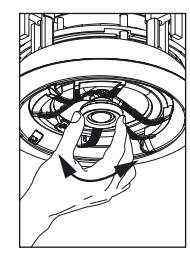

Figure 4. Tweeter adjustment.
9. Direct the tweeter. The tweeter is directed by gently pressing on the outer edge of the tweeter housing. It will move up to 20 degrees in any direction and can be positioned independent of the woofer assembly. For critical listening, direct the tweeter towards the user's favorite listening position. For surround sound or low volume background listening, create more reflections and thus more ambiance by directing the tweeter towards the sidewalls. (See **Figure 4**)